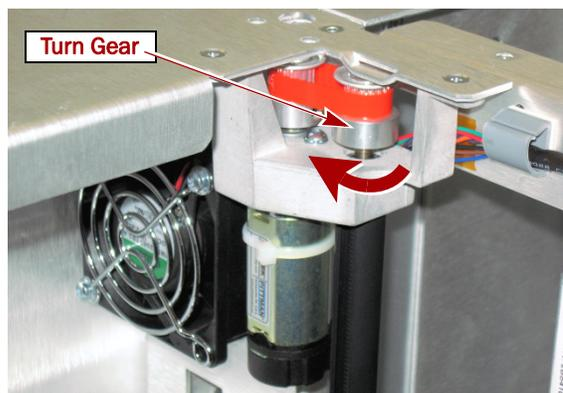

Figure 7. Turn Rear Z-Axis Pulley Gear
5. Raise the rear Z-Axis about one inch by turning the pulley gear clockwise (Figure 7).